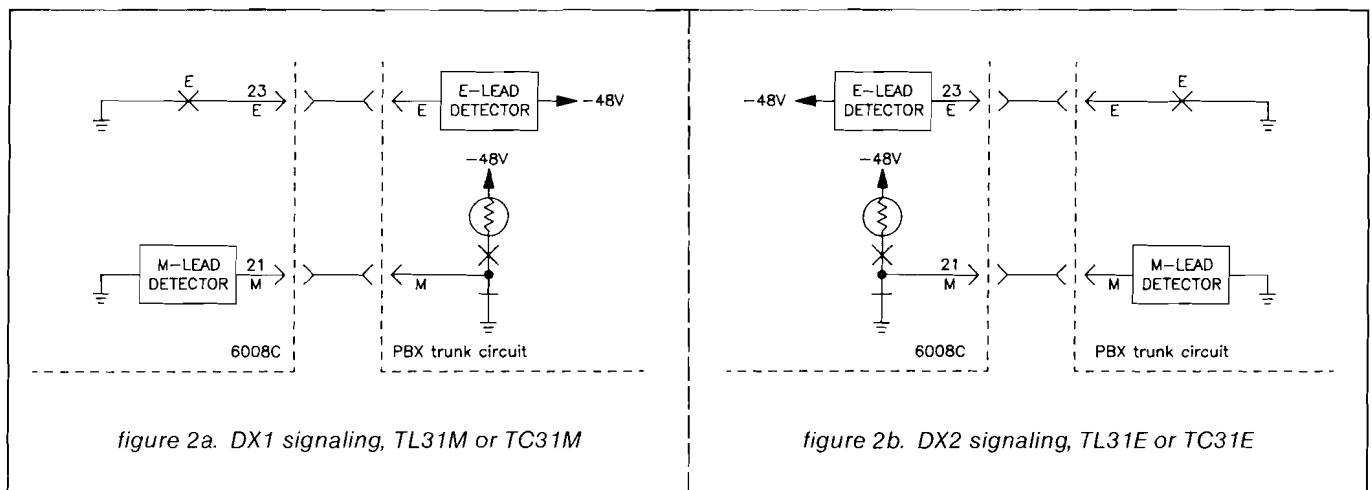

figure 2. Type I E&M interface arrangements
2.04 With either DX1 or DX2 operation selected, the 6008C can be switch-optioned for Type I or Type II E&M interface. In DX1 operation only, the 6008C is compatible with a Type III E&M interface when optioned for Type I. Figures 2 through 4 show the various E&M interfaces available with DX1 and DX2 operation. Registered Facility Interface Codes are also provided where applicable (i.e., for all interfaces except Type III with DX1).